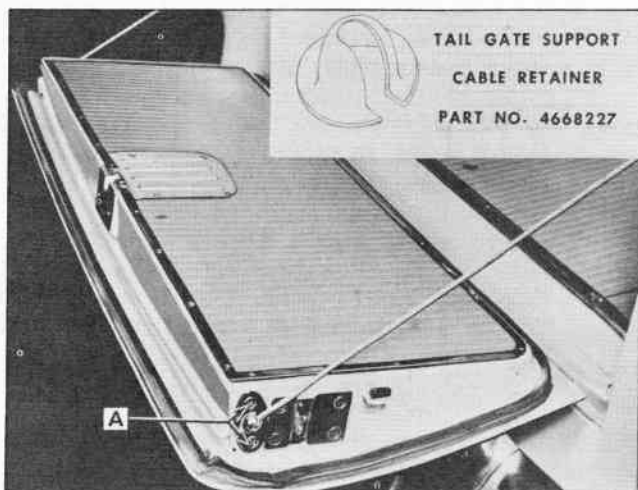

Fig. 9 Location of Tail Gate Support Cable Retainers
2. Remove screws (A in Fig. 9) and disassemble tail gate support cable retaining plate, support retainer and support.